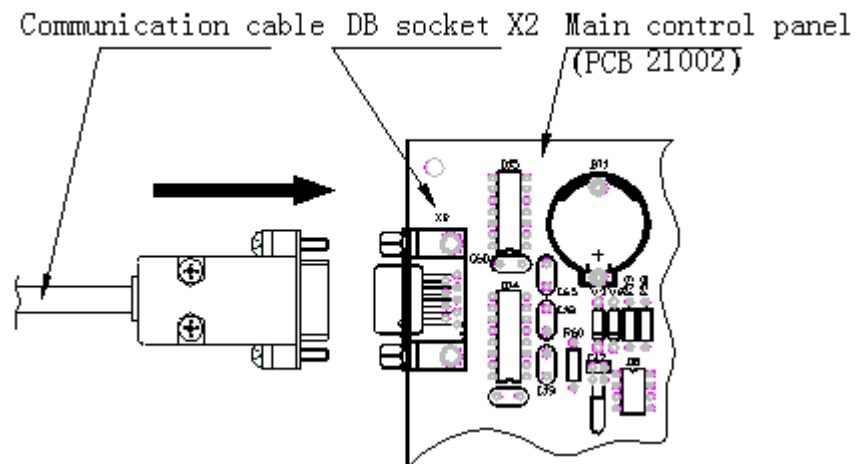

Figure 4-17 Connection diagram of communication cable
1. The pin plug of accessory communication cable shall be inserted in port X2 of mainframe control unit circuit board (PCB21002C), plug screws shall be tightened, as indicated in figure 4-17, and communication cable shall be properly laid.